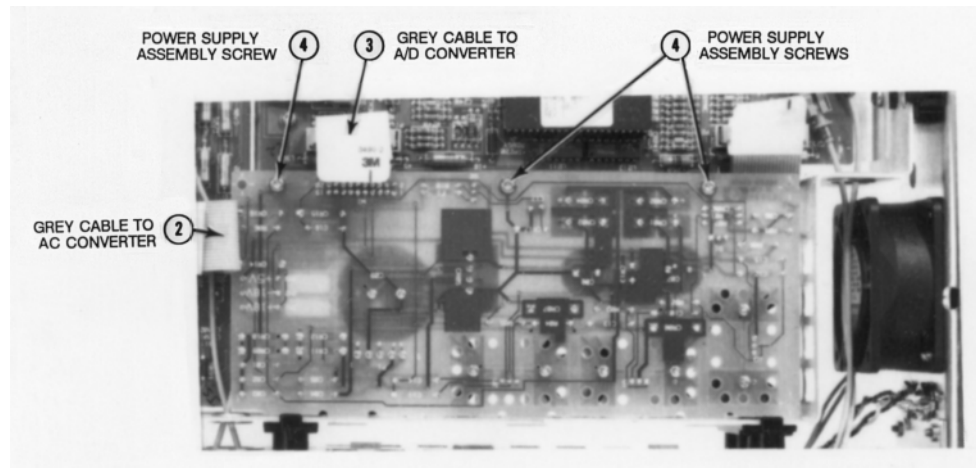

Figure 18. Inguard Power Supply Assembly Removal/Installation
4. Refer to Figure 18 for the rest of this procedure.
2. Refer to Figure 18. Line up the Inguard Power Supply assembly with the slots in the chassis. Then push the board in.